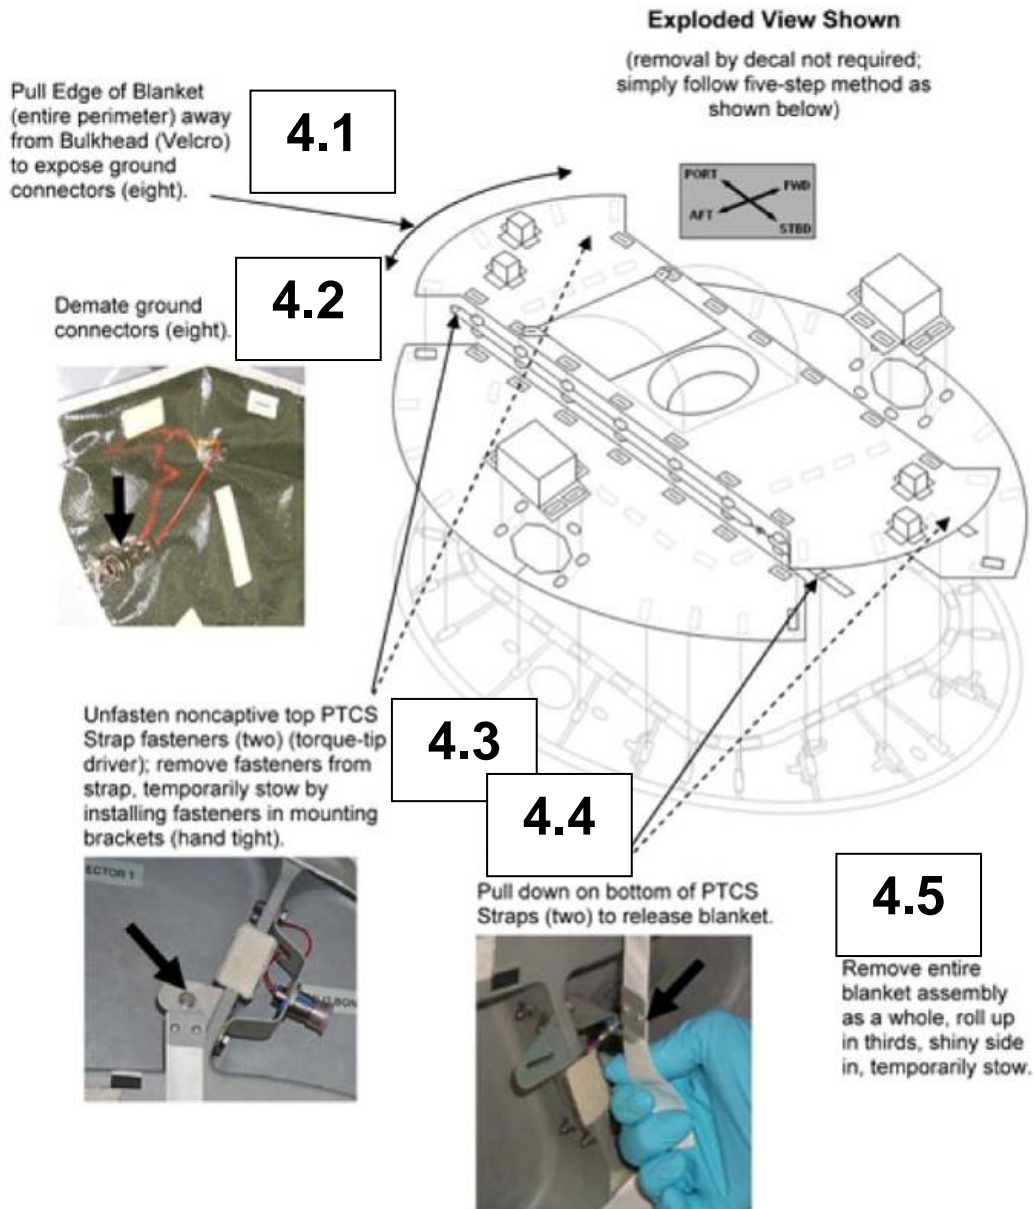

Figure 13.- Simplified Method of PTCS PMM Thermal Blanket Removal.
Refer to Figure 13.
- 4.4 Pull down on bottom of PTCS Straps (two) to release Blanket. Refer to Figure 13.